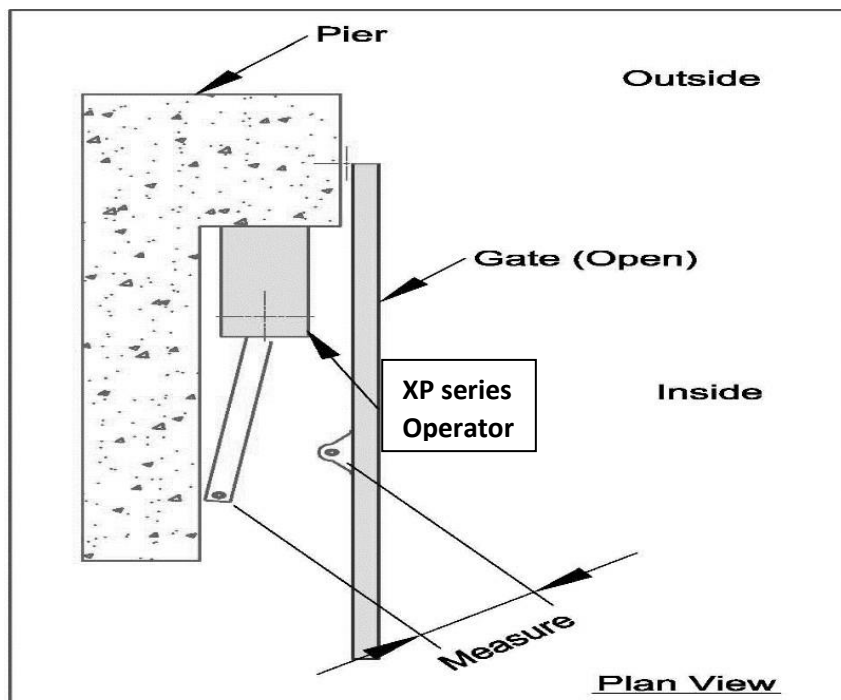

Figure 8: Re-measure length of secondary arm.
1. Mark a point on the gate suitable for the gate bracket. Holding the gate bracket in position, measure the distance between the hole centres on the gate bracket and primary arm. Move the primary arm to its maximum open position. Open the gate and measure the distance again (See figure 8). If the length has changed then the gate bracket must be repositioned and the same process repeated until the dimensions remain the same for both positions. **Be careful that the secondary arm does not conflict with the drive shaft of the primary arm.**